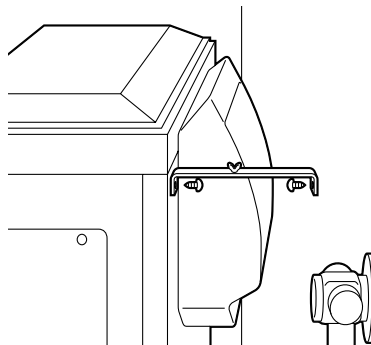

Fig. 15
12. After installation is completed, secure heater to the wall with the wall brackets provided with the heater. Make sure the heater is parallel to the wall (See Fig. 15).